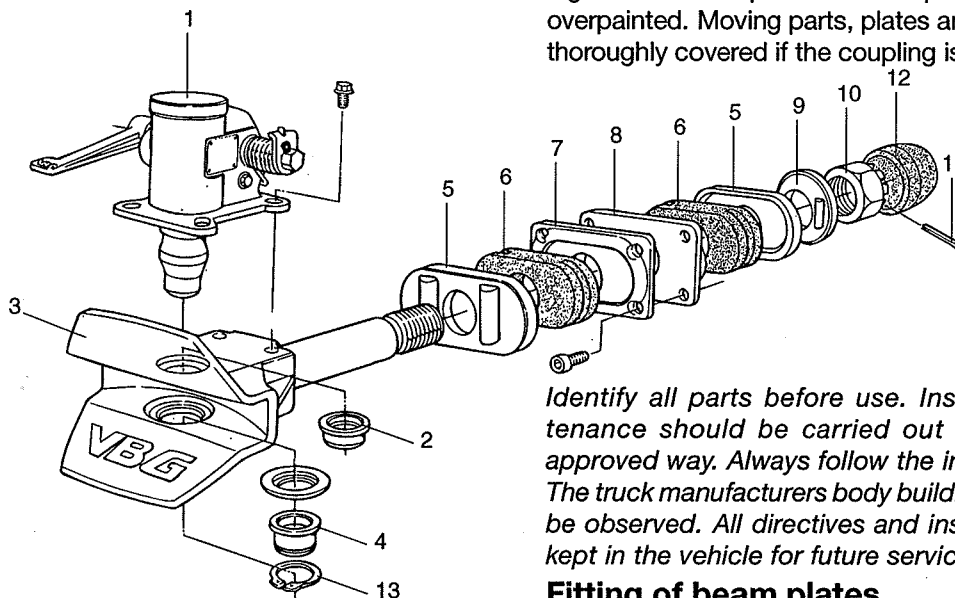

Figure 3
- Fit the remaining parts as shown in figure 3. Make sure that the thread of the horizontal shaft is well greased. Keep the coupling jaw horizontal whilst tightening the castellated nut by hand.